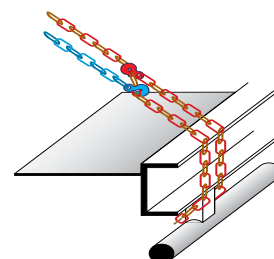

Figure 2. 2nd off 1st method.
- ✓ Where Poly corners are used two chains are required, they **MUST** be applied by the “2nd off 1st” method, as per **Figure 2**.